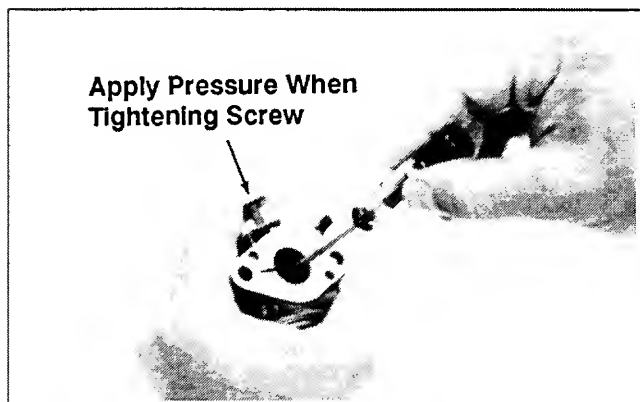

Figure 5-7. Installing The Throttle Lever/Shaft.
4. Apply finger pressure to the throttle lever/shaft to keep it firmly seated against the pivot in the carburetor body. Rotate the throttle shaft until the throttle plate closes the bore around its entire perimeter; then tighten the screw(s). See Figure 5-7.